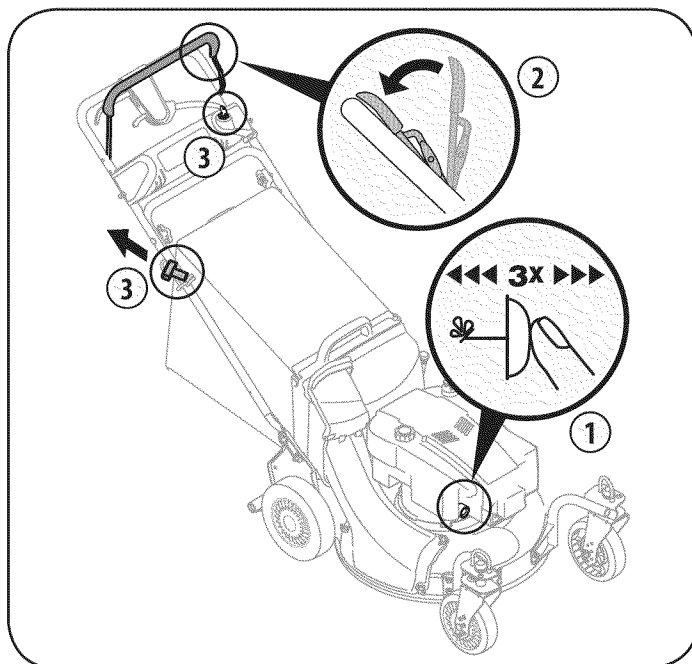

Figure 10
3. Push primer button 3 times. Do not prime on hot days or to restart a warm engine after a short shutdown. See Figure 10.
4. Standing behind the mower, depress the blade control and hold it against the upper handle. See Figure 10.